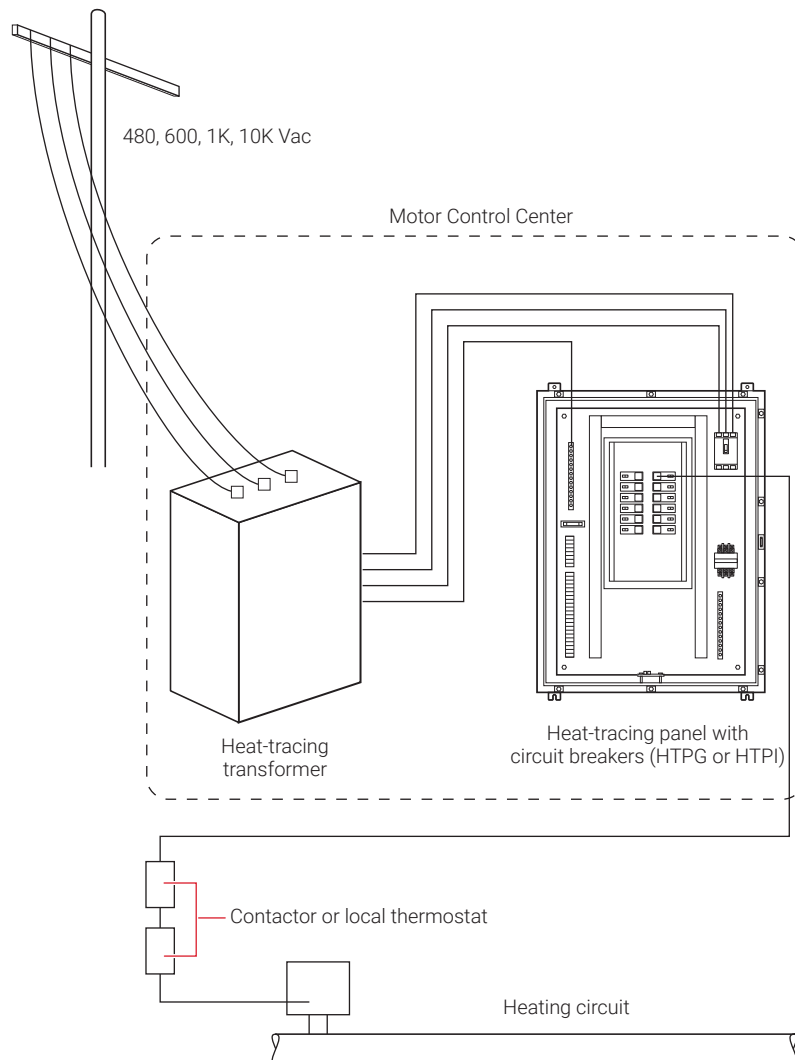

Fig.1 Typical heat-tracing power distribution system
Fig. 1 represents a typical heat-tracing power distribution system. At the Motor Control Center (MCC) the voltage is reduced to the level required for the heat tracing. The transformer supplies this reduced voltage to the distribution panelboard, which contains the main circuit breaker and branch circuit breakers. From the branch circuit breakers (CB), the voltage is transferred to the heater's power connection box via wire/conduit or cable. This section will assist you in sizing and specifying the transformer and heat-tracing panel.